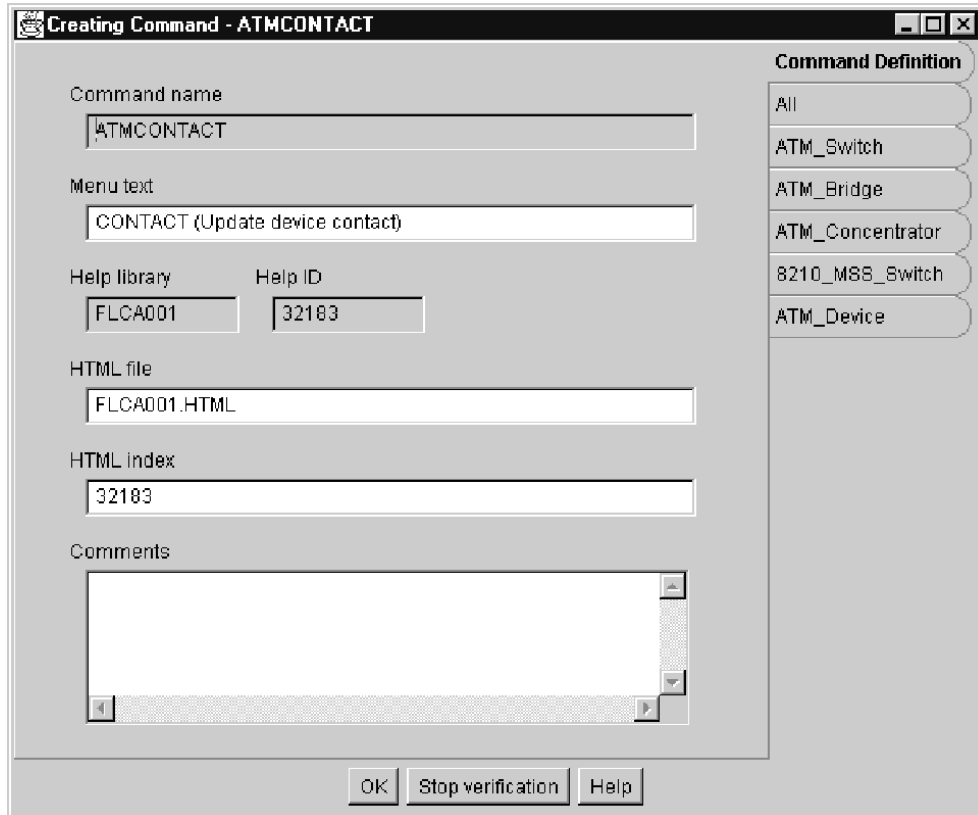

Figure 27. Creating Command Dialog
8. If you choose to verify the command indicators, dialogs are presented in Figure 27 on page 136 for each command belonging to a command set and that command set name. Verify the values and make appropriate changes. When you have verified the command indicators, click **OK** to create the response file.